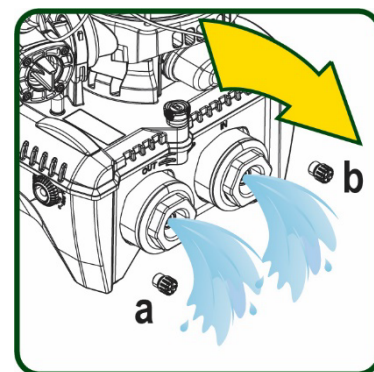

Figure 20
5. remove the two drainage caps on the dock and let out the water inside (about 11 litres); Fig.20